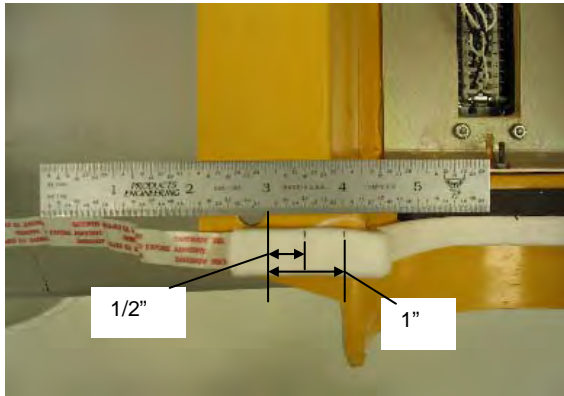

Figure 7
- b. Measure over 1/2" from the inside edge of the corner bolt hole and place a mark on the seal (Figure 7).